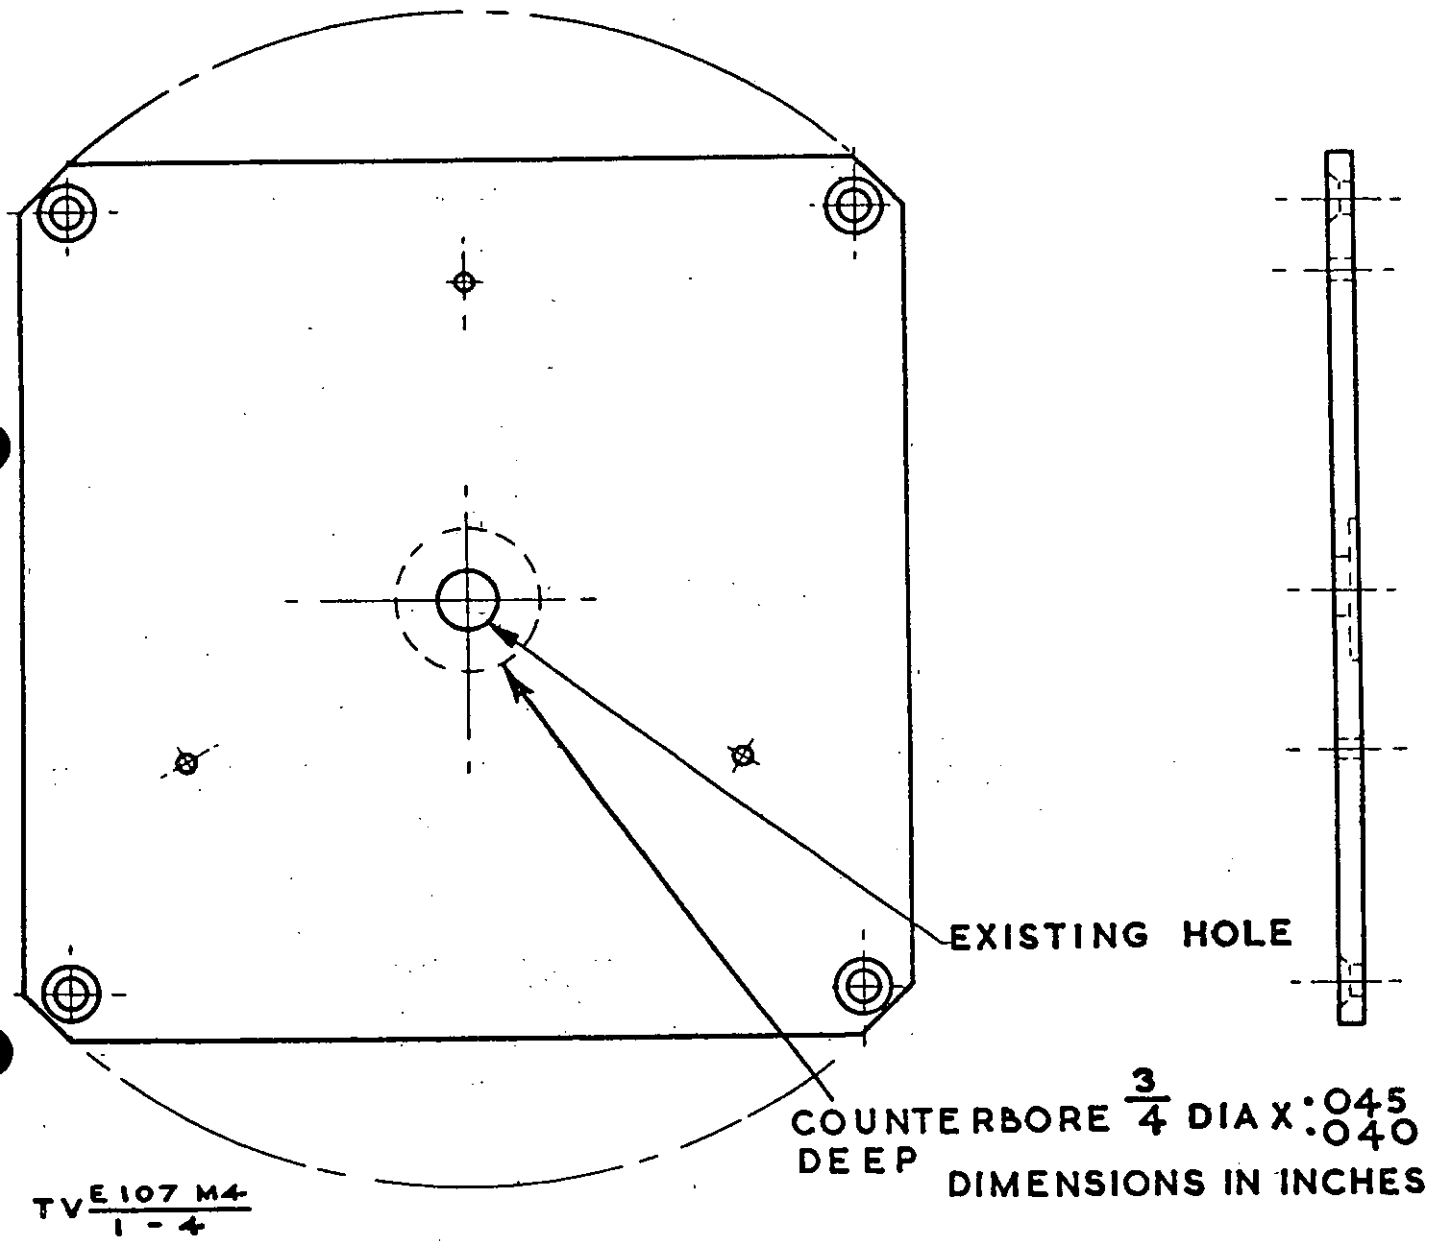

Fig 4 - Cover, counter boring
- h. See Fig 4: Counterbore existing 19/64 in. diameter hole of cover plate to 3/4 in. at dimensions shown.